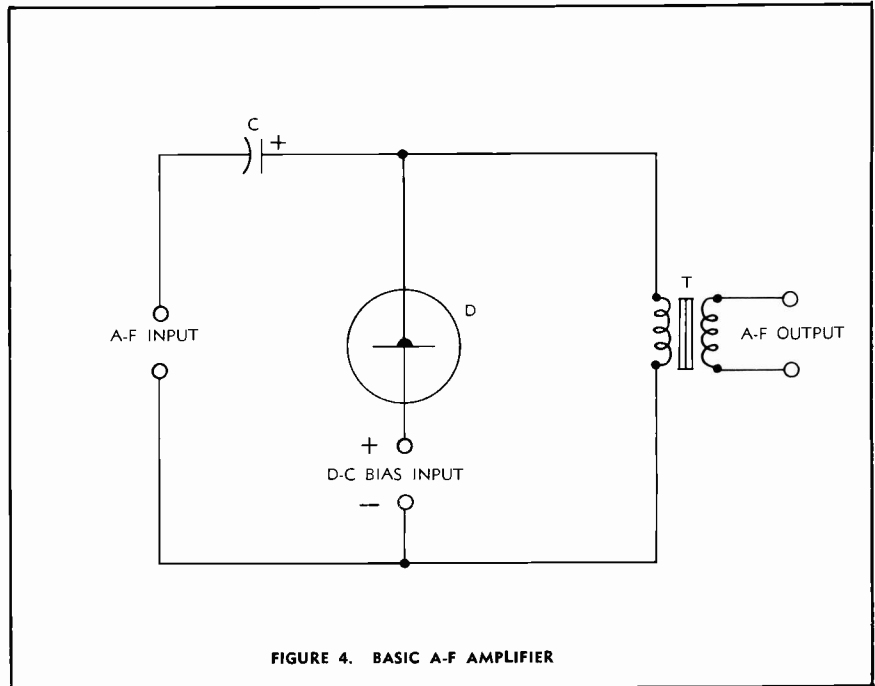

FIGURE 4. BASIC A-F AMPLIFIER
**A-F Amplifier.** Like the transistor, the tunnel diode is a low-impedance device. In order to obtain good response at low audio frequencies, high input coupling capacitance therefore is required in simple RC-coupled a-f circuits. In Figure 4, for example, coupling capacitance C operates into a circuit having 100 ohms or less impedance, therefore must be 100 to 1000  $\mu\text{fd}$  for acceptable response at 20 cps. The resulting time constant is long: 10 msec with 100  $\mu\text{fd}$ , and 100 msec with 1000  $\mu\text{fd}$ .